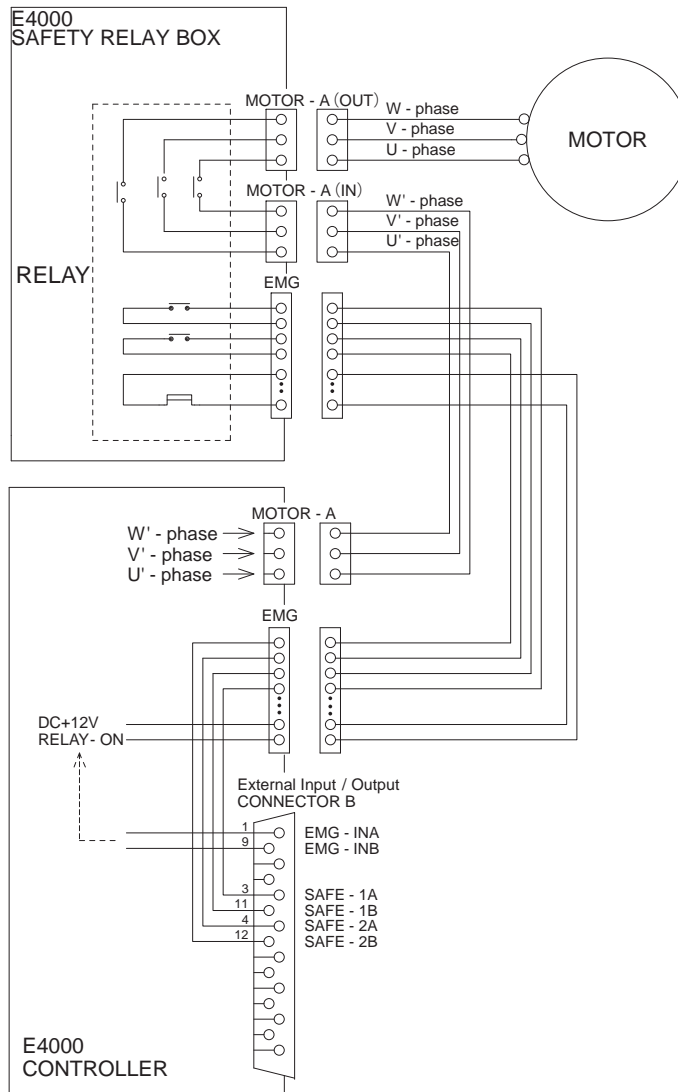

Fig. 35
- If the (NO) Normally Open contacts of the Safety Relay are welded together by an over load or short circuit the (NC) Normally Closed contacts separation are maintained with more than 0.5mm spacing by the relay's recoil mechanism.
- Applied Voltage (V)  $\leq$  DC+30V
- Refer to Fig. 35 for the connection diagram.